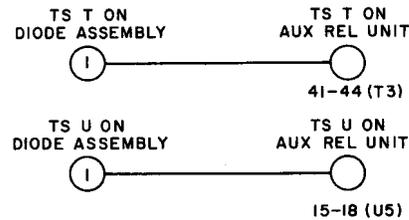

Fig. 22—Connections for Assigning Station Lines to Signal Keys for DSS
(4) Provide straps between the tens and units terminal strips on auxiliary relay units to assign called stations to signal keys (see Fig. 22). References for Part 6 are as follows: